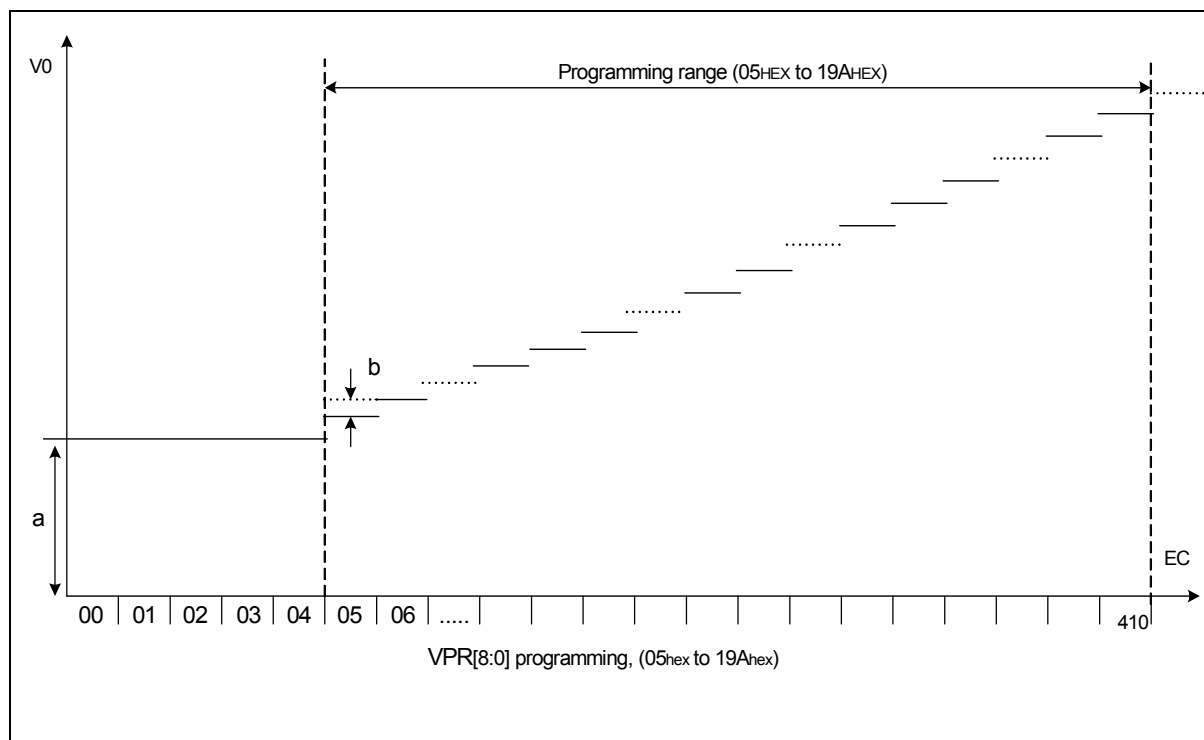

Fig. 8.10.2 V_0 programming range
The VPR[8:0] value must be in the V_0 programming range as given in Fig.8.10.2. Evaluating equation (1), values outside the programming range indicated in Fig.8.10.2 may result.